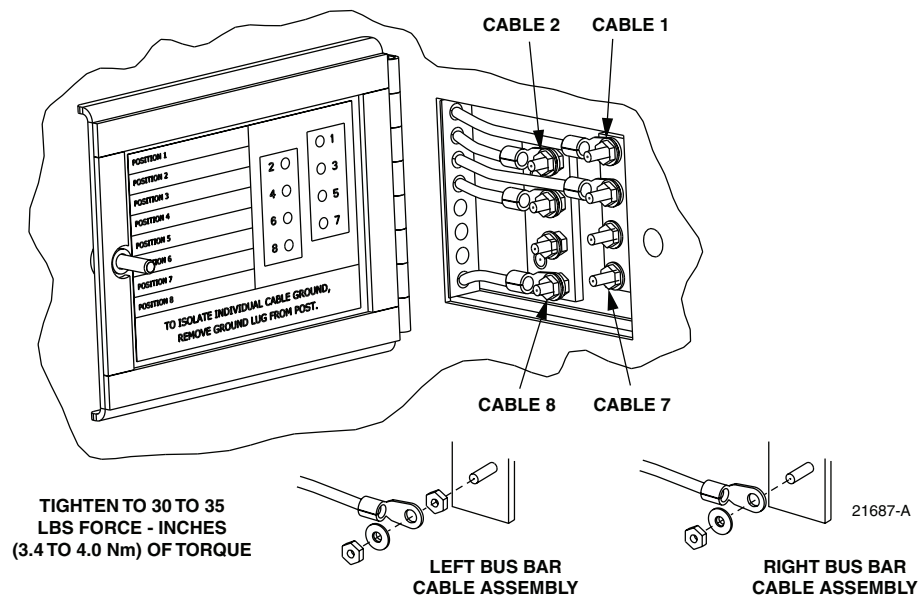

Figure 21. Cable Grounding System - Exterior View
4. Open the grounding system access cover located at the rear side of the cabinet as shown in Figure 21.